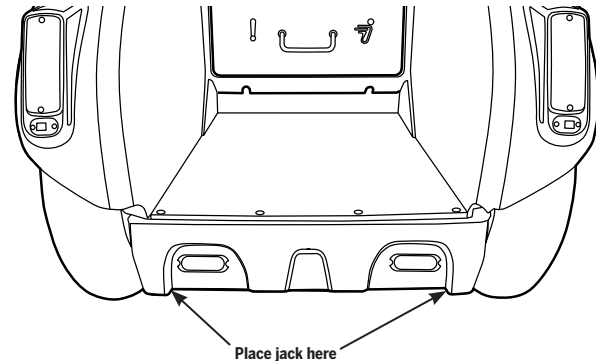

Figure 50: SE-3 Patroller Rear Lifting Points
4. Place the vehicle jack under the back of the SE-3 Patroller skid plate, close to the wheel being changed (**Figure 50**). Raise the SE-3 Patroller until the wheel is just off the ground.
2. Jack up the SE-3 Patroller (**Figure 50**).